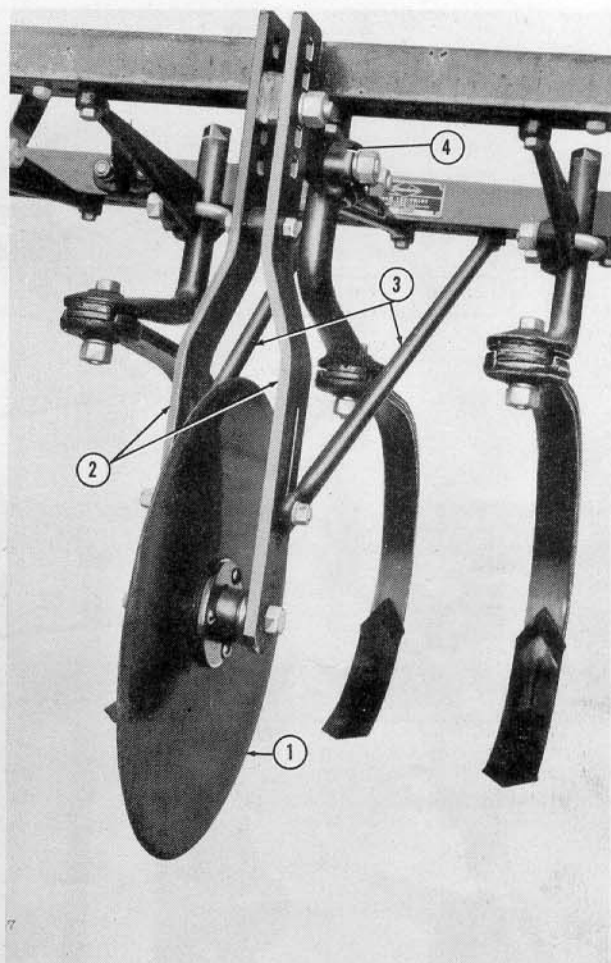

Figure 5
5. Assemble the rolling fin (1) and the fin supports (2) as shown in Figure 5.
6. Attach the rolling fin assembly to the center stem seat (4) with the stay braces (3)
to the rear as shown in Figure 5. For the normal setting, bolt the supports (2) through the center hole. In this position the fin will ride about three inches lower than the shovel points. Attach the stay braces (3) to holes in the main frame so that the rolling fin assembly will line up squarely with the main frame. Adjust the braces to the rolling fin supports as shown in Figure 5, and securely tighten all nuts.